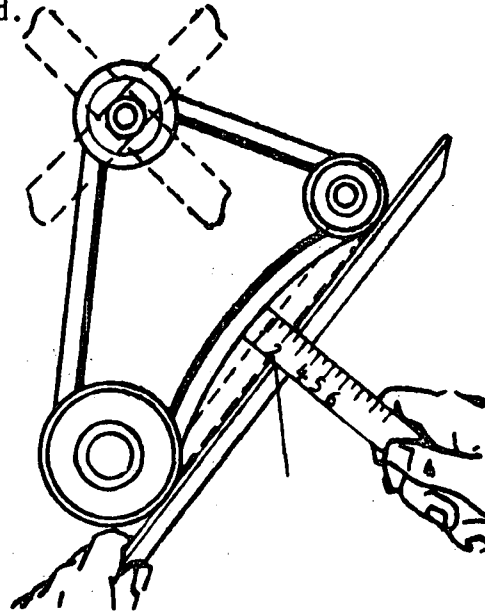

Fig. 3
- d) Check the tension of the fan belt. Test if its deflection between the pulleys is correct (Fig. 3).